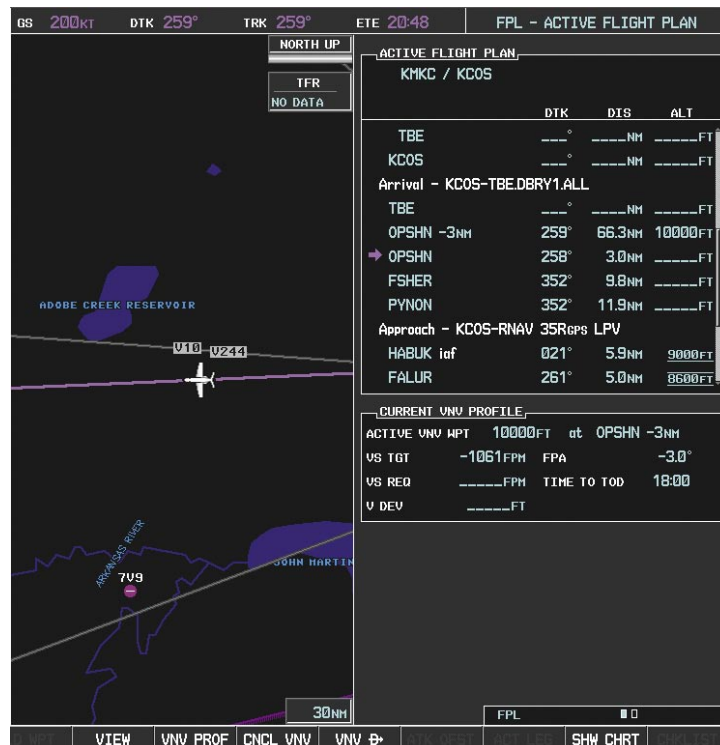

Figure 5-124 Loaded Approach
- h) With 'LOAD?' highlighted, again press the **ENT** Key. The selected approach is added to the flight plan as seen in Figure 5-124.